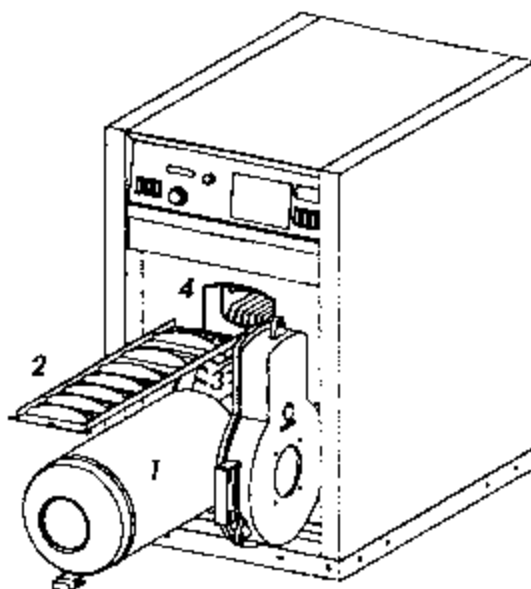

Fig. 30: Combustion chamber
- Remove the combustion chamber insert 1 and flue gas diverter 2 (Fig. 30).